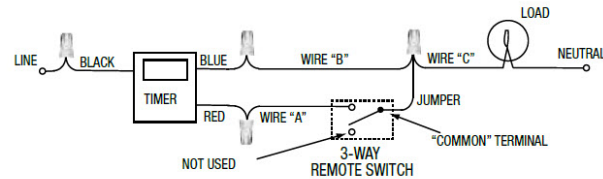

FIGURE 3
- Follow **Figure 3** if a new single-pole remote switch is being used.